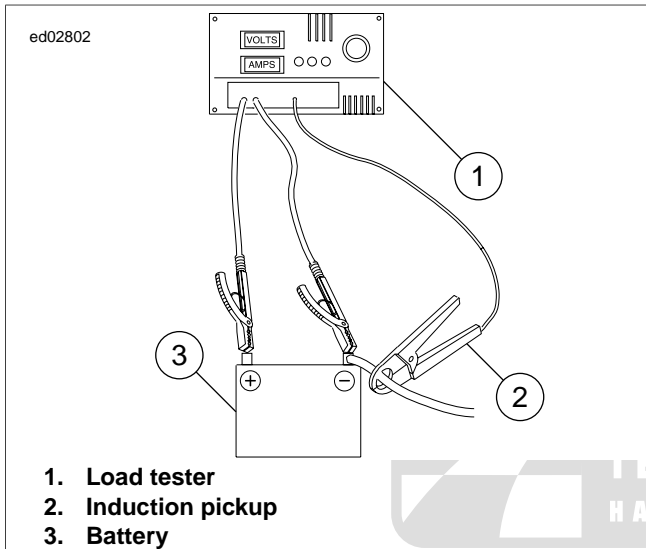

Figure 3-15. Check Current Draw (Ignition Switch On)
1. See Figure 3-15 to check for this condition, and place load tester induction pickup or current probe pickup over battery negative cable.